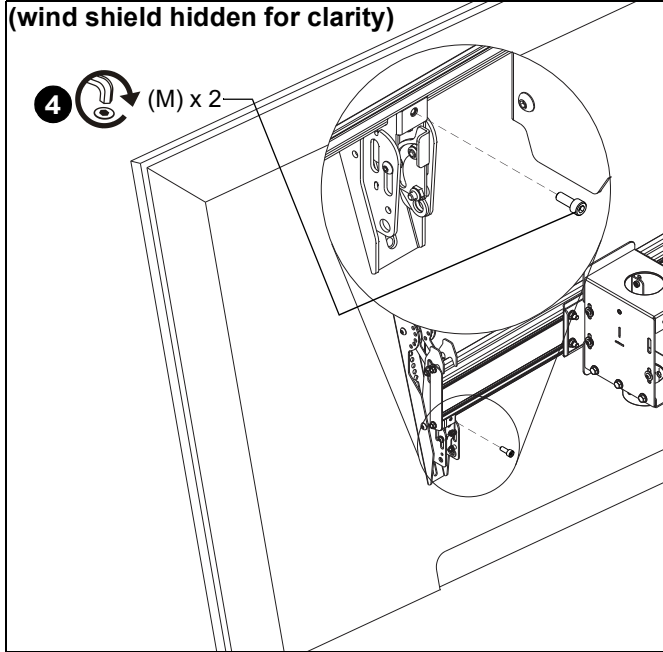

Figure 20
4. Fasten brackets against ceiling mount extrusion using two #10-24 x 1/2" socket head cap screws (M). (See Figure 20)